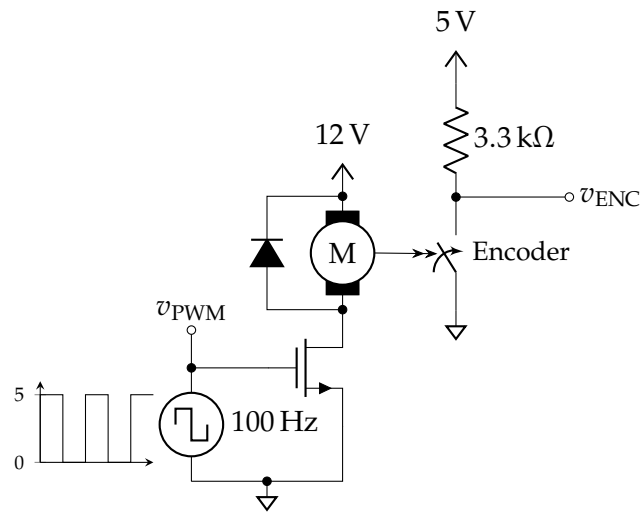

Figure 2.5: PWM motor speed controller.
1. *Construct* the circuit in figure 2.5. Use either output of the quadrature encoder for v_{ENC} . Use the 1N5819 diode and RFD3055LE MOSFET.